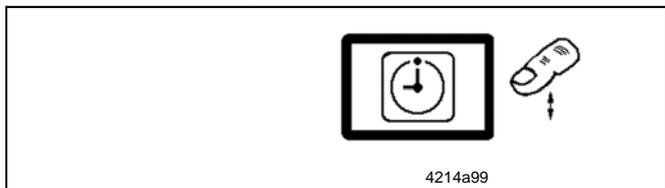

Fig. 31 Acknowledging receipt of a flashing fault indication
- ➔ In this case, switch on the pump by pressing the button for additional operating cycle (pos. 2, fig. 31).
- By pressing the key (fig. 31) the flashing *Er* changes into a permanent light.
- By pressing the key (fig. 31) the flashing *LL* changes into a permanent light.